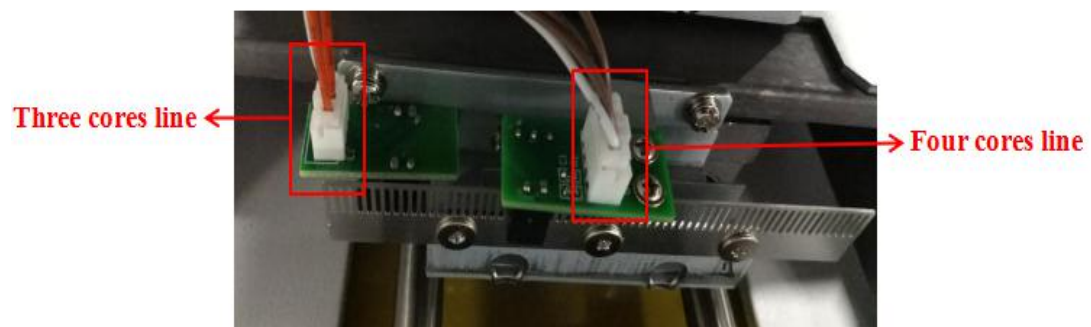

Fig 7.5-2
- 3.Taking out the wiring plugs on the PD code board or the wiring plugs on the PD limit board,depending on the circuit board to be replaced,as shown Fig 7.5-2.